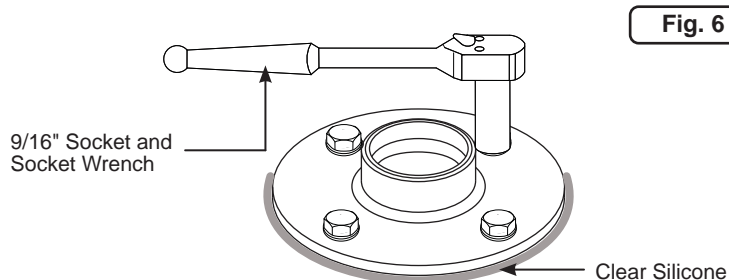

Fig. 6
6. Use a socket wrench and  $\frac{9}{16}$ " socket to tighten the anchor bolts (Figure 6).
8. Apply a thick bead of clear RTV silicone around the bottom bearing plate (Figure 6).